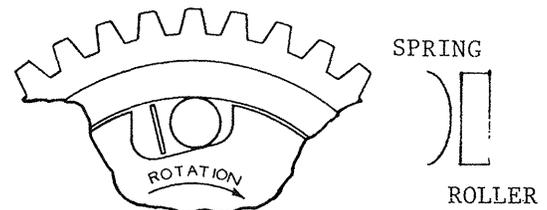

Fig. 3-32
- N. If the roller clutch gear has been disassembled, be sure to reassemble correctly. Slip the (46t) gear over the drive sleeve then insert the ten rollers and springs as shown (Fig. 3-32).